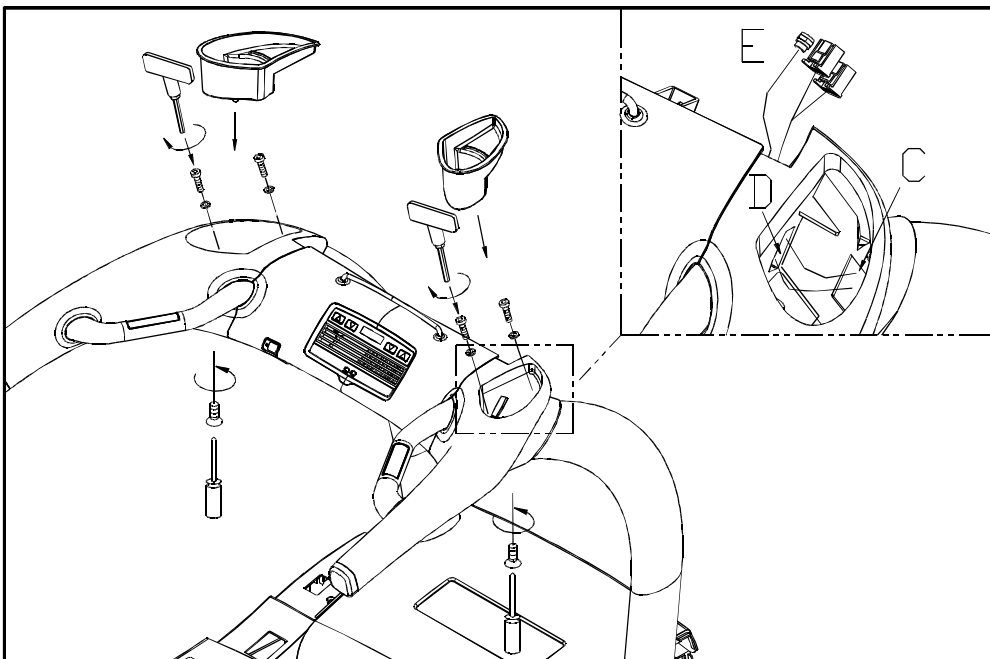

Fig.4
**STEP 4.** Hold the handlebars onto the bracket on the pedestals. Then pull the data cable on the right pedestal through the right handle (C→D→E). Remove the tie on the data cable set. Use the ALLEN WRENCH WITH THE T-SHAPED HANDLE (6 mm) to tighten the bolts with washers, fixing the handlebars in place on the bracket. Finally, put the left and right cup holders in place and secure them with the screws. (See Fig. 4.)